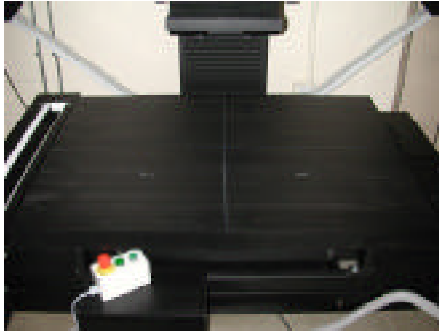

Figure 22: The vacuum board has alignment lines to help center the image as best as possible.
- ◆ Measure the size of the original and center it on the scanner. It is important to center the image as best as possible for the highest possible dpi. (*See figure 22.*)